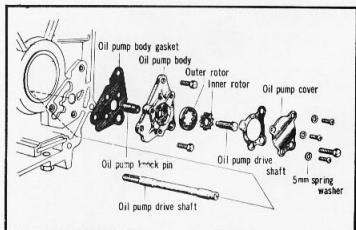

Figure 3-10. Disassembling the oil pump
- (1) Remove the clutch assembly as described in section 3.14a.
- (2) Remove the three 6mm bolts and remove the oil pump as a unit. (Fig. 3-10)